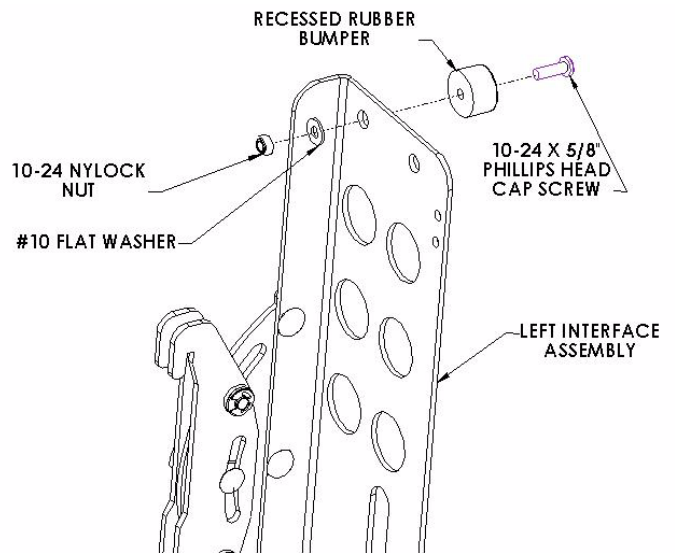

Figure 2. Recessed Bumper Installation
1. Insert black recessed rubber bumpers (100) using two 10-24 Phillips head screws (160), #10 flat washer (150) and Nylock nut (140) in top hole of each interface bracket (20 and 30)(see Figure 2).